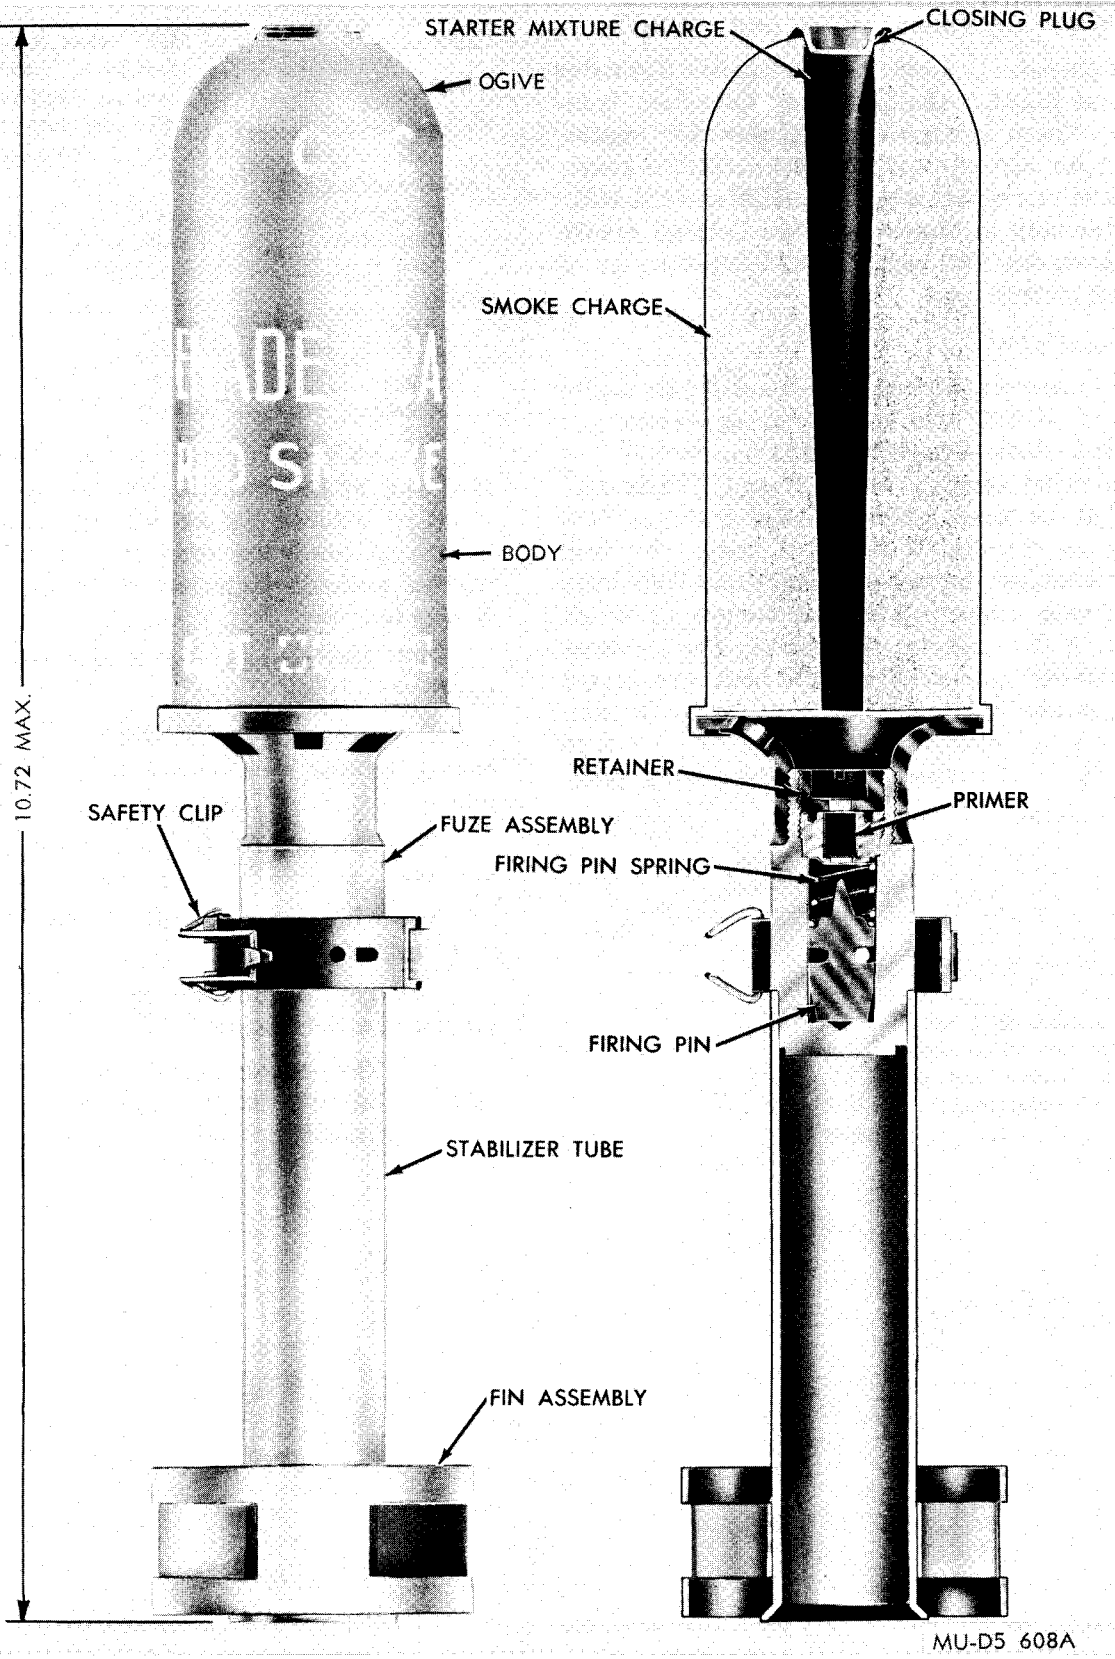

Figure 3-5. Colored smoke rifle grenade M22A2.
a. *General.* Colored Smoke Rifle Grenades M22 and M22A2 (fig. 3-5) are launched from a rifle. These grenades, used only for signaling and for laying smoke screens, produce green, red, violet or yellow smoke. The M22 and the M22A2 differ only in minor features. Colored Smoke Rifle Grenades M22 and M22A2 have a range of over 200 meters.